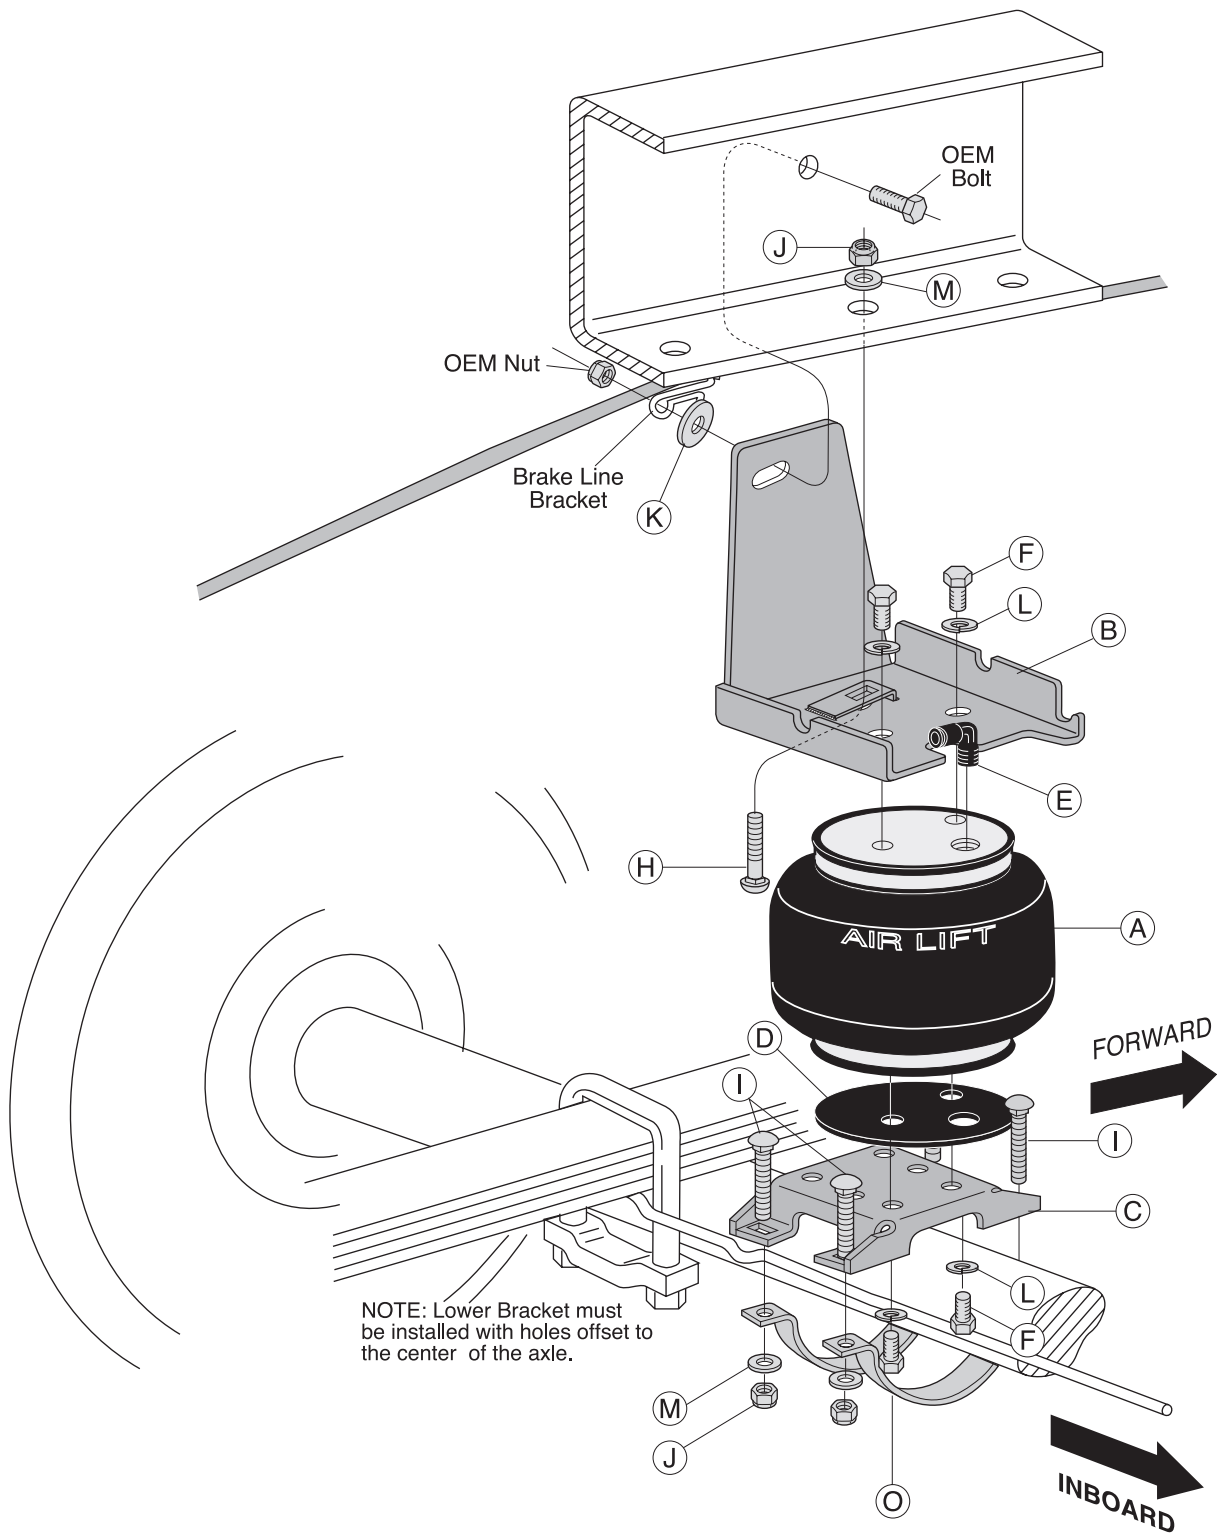

fig. 1
*Not shown on Figure 1
1. Install 90 degree air swivel fitting (E) to the top of the air spring. This fitting is precoated with sealant. Using an open-end wrench, tighten 1 1/2 turns (Figs. 1 and 3).
3. Set bracket and carriage bolt assembly on top of the air spring. Attach with two bolts (F) and lock washers (L).
4. Set roll plate (D) on the bottom of the air spring (Fig. 1).
1. Set the assembly in place by inserting the carriage bolt (H) up through the jounce bumper hole (Fig. 1). The bracket fits flush against the outside of the frame.
2. Attach the axle straps (O) to the lower bracket using washers (M) and nylon lock nuts (J). Refer to Figure 1.